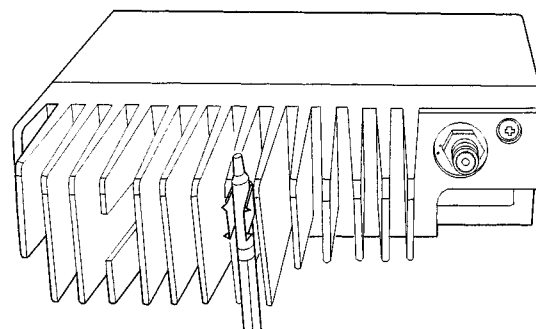

Figure 2-4. Insert thermal Switch into R1225 Heatsink
3. Locate the thermal switch mounting clip supplied with the HPN9033 power supply. Slip the mounting clip onto the thermal switch, from the power supply. Refer to Figure 2-4.
4. Place the thermal switch and mounting clip, in-between the last long fins of the R1225 transceiver's heatsink. These fins are nearest the DC connector. Refer to Figure 2-4